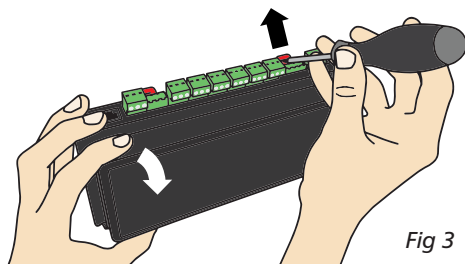

Fig 3
D - Removal from DIN Rail (Fig 3)
- (1) Power down the unit
- (2) Unplug the 'Input 4' and 'Port 1' connectors from the top of the Zen (the DIN clips are behind these terminals)
- (3) Gently pull the unit away from the rail while levering one of the clips upward with a screwdriver
- (4) When one side is loosened, hold it slightly away from the rail to prevent the clip from engaging again (pictured in Fig 3). Meanwhile, lever the second clip upward as you did with the first.